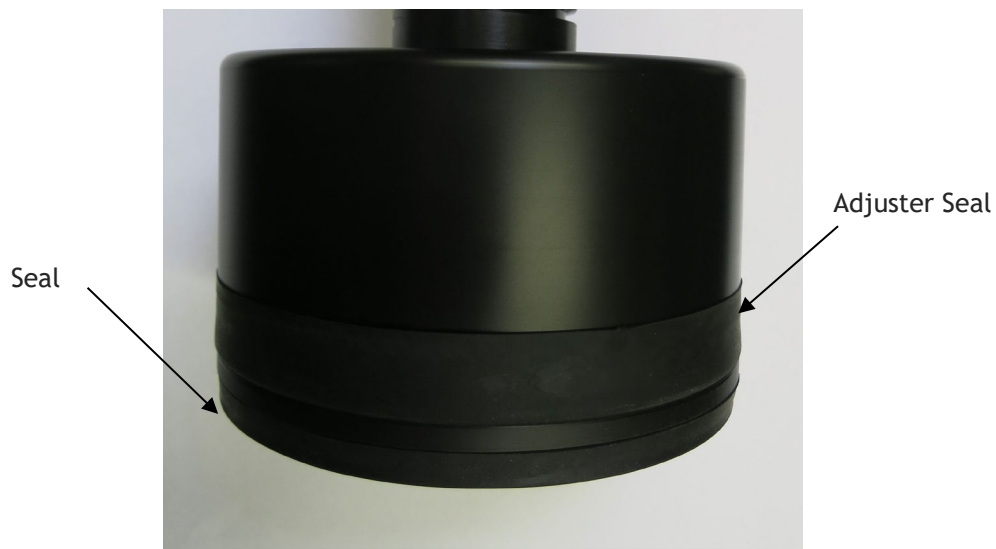

Figure 1.10 Photograph showing the final location of the adjuster bed support
6. Slide this assembly into the threaded height adjust rod/ seal setting ring assembly and ensure the adjuster seal fits over the flow cell. See Figure 1.10 below.